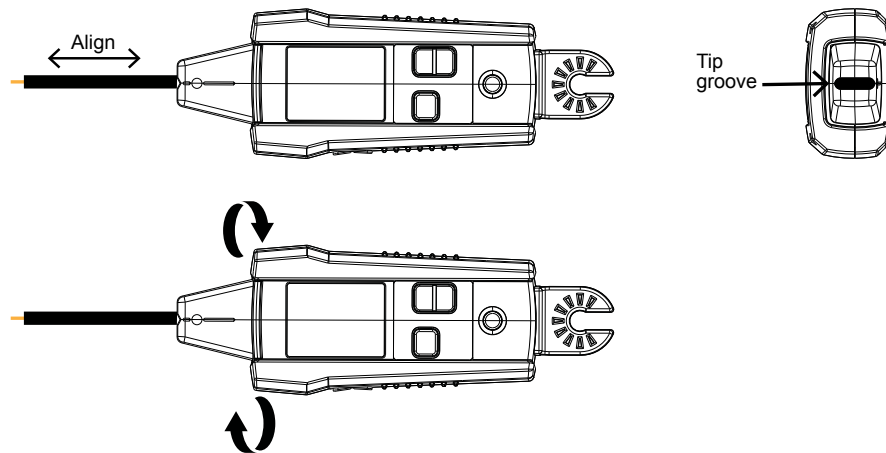

Figure 3.1e: Aligning the tip sensor groove
3. For best results while tracing Energized wires, align groove on the Tip Sensor with wire direction as shown in Figure 3.1e. Signal may be not detected if not properly aligned. To verify wire direction, periodically rotate the Receiver 90 degrees. Signal strength will be the highest when wire is aligned with the Tip Sensor groove. Depending on the detected signal, the Receiver automatically switches to either Energized ⚡ or De-energized ⚡ mode, and displays this information on the LCD. No manual setup is necessary.